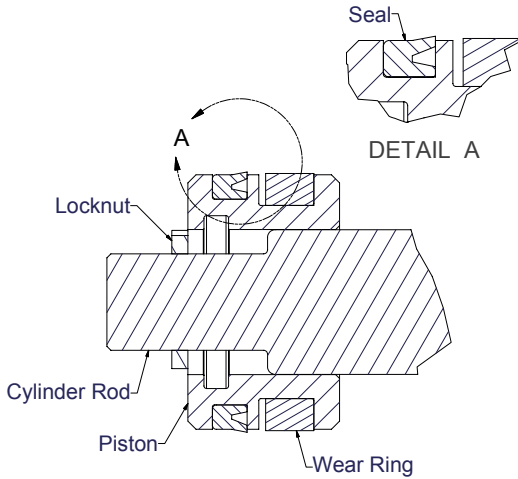

Figure 4-10, Piston Seal
2. Note the direction of the seal on the piston. Improper installation will result in poor performance. The cupped side or O-Ring side of the seal should be facing the gland cap. (Figure 4-10)